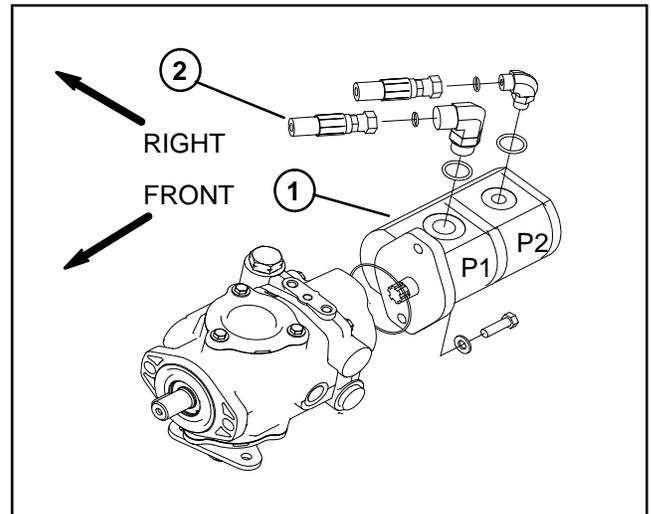

Figure 37
3. Disconnect hose connection on the gear pump (P1) leading to port (P1) on the hydraulic manifold (Fig. 37).